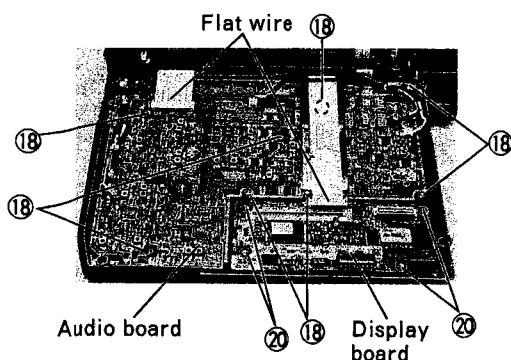

Fig. 1-2-3 Removal of Audio and Display board
- (1) Disconnect the flat wire (refer to Fig. 1-2-3).
- (2) Remove a screw ㉒ and take out the Mecha JUNC board.
- (3) Remove four screws ㉓ and take out the frame from the main-deck.
- (4) Remove five screws ㉔ and take out the board.